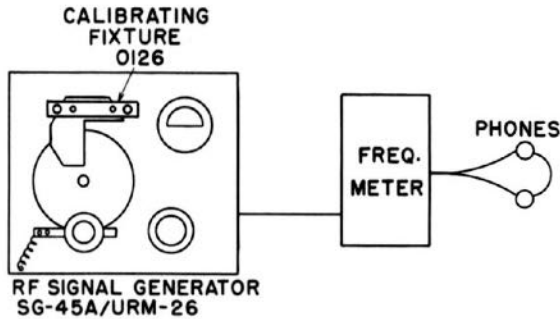
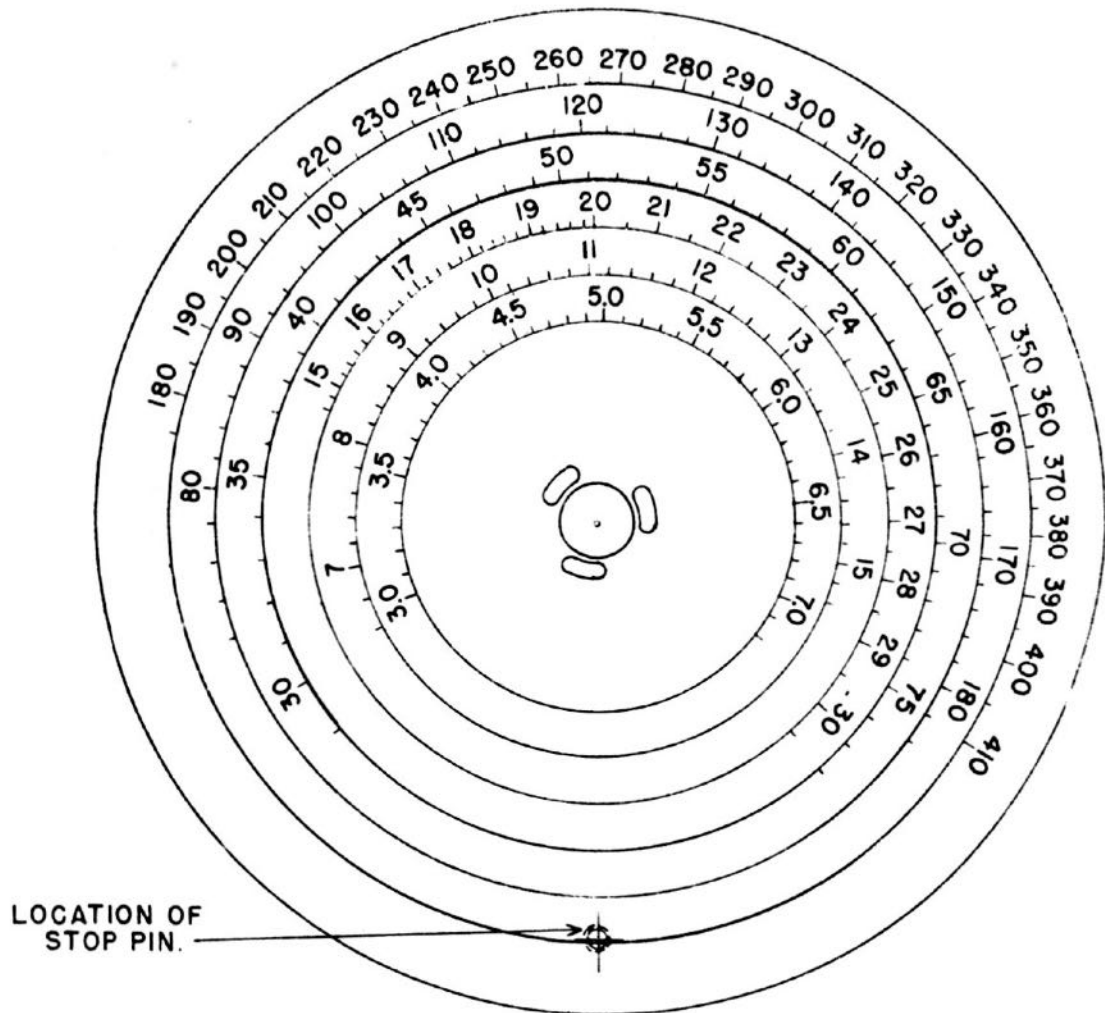

Figure 7-15. RF Signal Generator SG-45A/URM-26, Recalibration Set-up
Figure 7-16. Signal Generator SG-45A/URM-26, Typical Dial Calibration
(4) Remove index plate by taking out two screws.
(5) Tuning dial can then be removed by taking out three screws.
d. The recommended set-up for frequency recalibration is shown in figure 7-15. The frequency meter should be suitable for the range to be calibrated. The calibration procedure is as follows:
(1) Connect RF Signal Generator SG-45A/URM-26 to power source and allow instrument to operate at least fifteen minutes before calibrating. Set range selector for band being calibrated and place AMPLITUDE MODULATION switch at OFF.
(2) Connect output connector, J-106, to the heterodyne frequency meter in use.
(3) Connect headphones to heterodyne frequency meter for aural monitoring of beat note.
(4) Set frequency meter to the highest major frequency calibration of the range being calibrated (see figure 7-16).
(5) Rotate tuning dial, I-104, to high frequency end of range and tune carefully for zero beat with frequency meter.